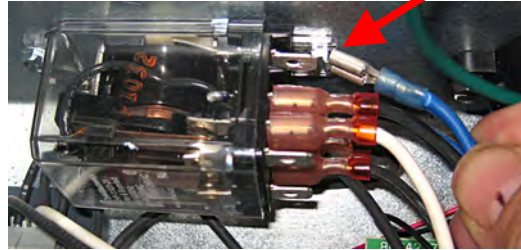

Figure 7
16. Locate the filter pump relay and remove the top wire (see Figure 7).